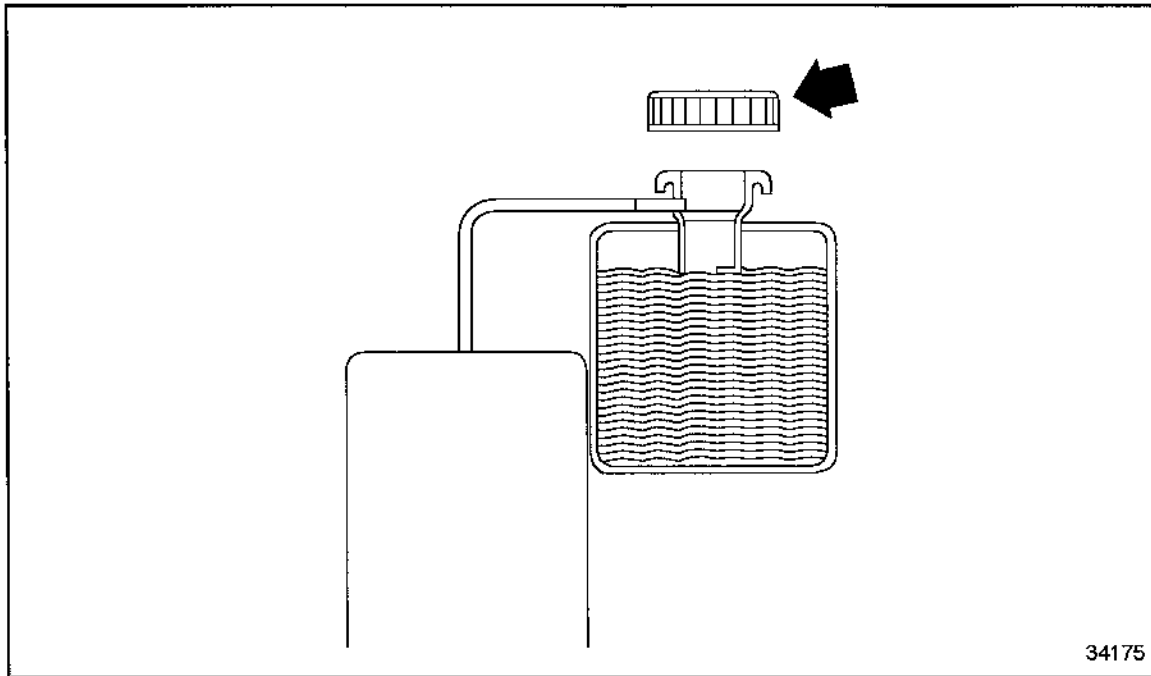

Figure 25 Filling Engine Coolant
3. Pour in treated engine coolant via the filter neck. See Figure 25.